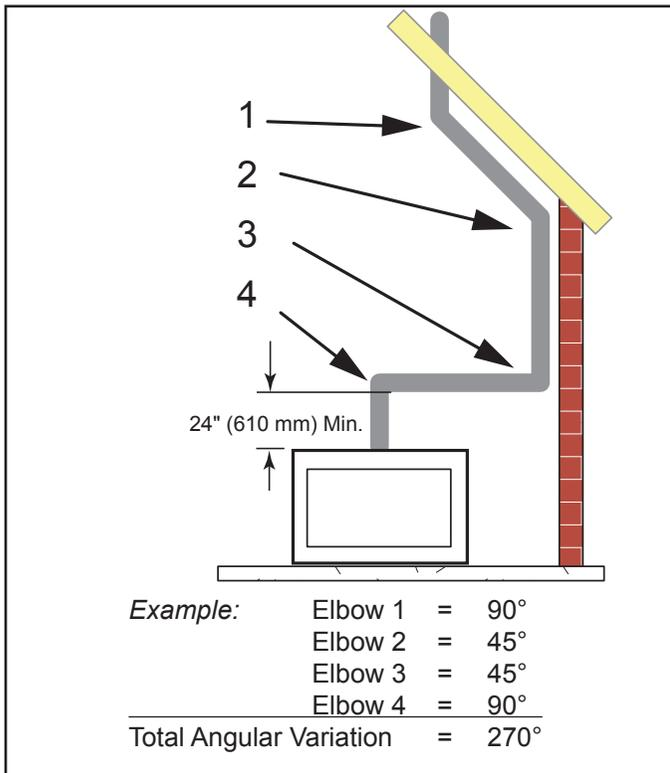

**Figure 5.12** Allowable Horizontal Runs with Vertical Rises and Terminations
This gas fireplace has been approved for vertical installations up to 40' (12 m) in height. Up to a 20' (6 m) horizontal vent run can be installed within the vent system using a maximum of two 90° elbows. See *Figure 5.12*.
**NOTE:** If an offset is needed to avoid obstructions, you must support the vent pipe every three (3) feet. Use wall straps for this purpose. Page 22, Figure 5.12. Whenever possible, use 45° elbows instead of 90° elbows. The 45° elbow offers less restriction to the flow of the flue gases and intake air.